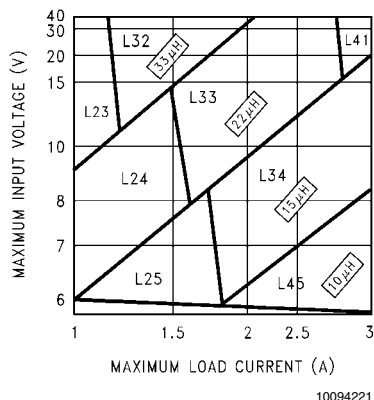
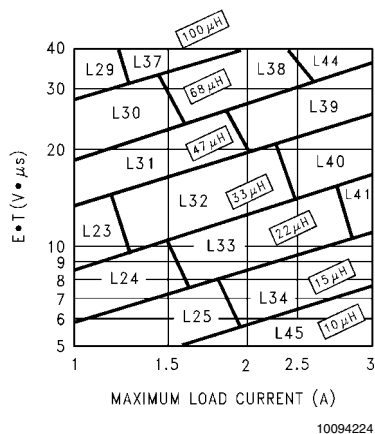

FIGURE 3. LM2670-3.3
FIGURE 6. LM2670-ADJ
Step 3: Determine the inductor required by using one of the four nomographs, *Figure 3* through *Figure 6*. Table 1 provides a specific manufacturer and part number for the inductor.
Step 5: Determine an input capacitor from Table 4 for fixed output voltage applications. Use Table 2 to find the specific capacitor type. For adjustable output circuits select a capacitor from Table 2 with a sufficient working voltage (WV) rating greater than $V_{in\ max}$, and an rms current rating greater than one-half the maximum load current (2 or more capacitors in parallel may be required).
Step 3: Use the nomograph for the 3.3V device, *Figure 3*. The intersection of the 16V horizontal line ($V_{in\ max}$) and the 2.5A vertical line ($I_{load\ max}$) indicates that L33, a $22\mu H$ inductor, is required.
Step 3: To use the nomograph for the adjustable device, Figure 6, requires a calculation of the inductor Volt•microsecond constant ($E \cdot T$ expressed in $V \cdot \mu s$) from the following formula:
Using Figure 6, the intersection of 27V• μs horizontally and the 2A vertical line ($I_{load\ max}$) indicates that L38, a 68 μH inductor, should be used.
Important Note: When using the adjustable device in low voltage applications (less than 3V output), if the nomograph, Figure 6, selects an inductance of 22 μH or less, Table 6 does not provide an output capacitor solution. With these conditions the number of output capacitors required for stable operation becomes impractical. It is recommended to use either a 33 μH or 47 μH inductor and the output capacitors from Table 6.